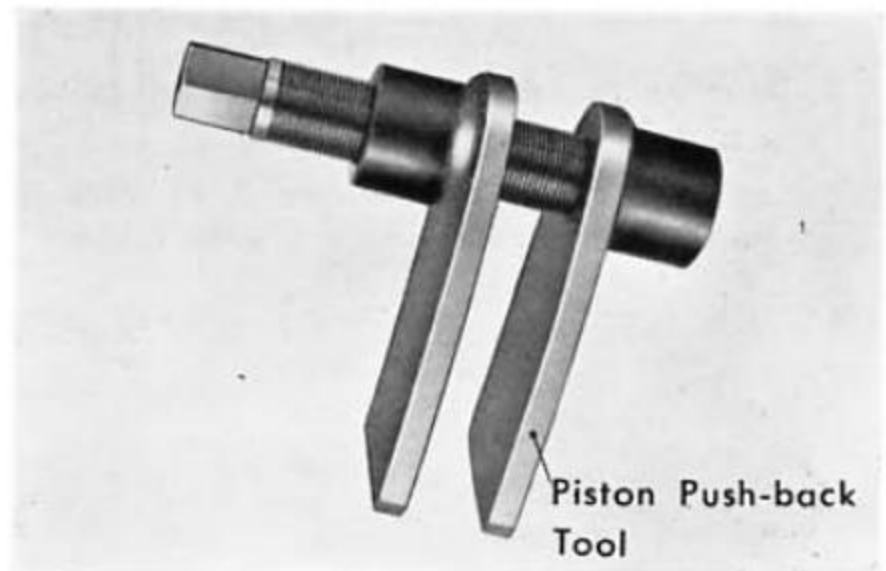

Fig. 12C-2
3. Install the piston push-back tool (Fig. 12C-3) over the disc, and push the pistons back into the cylinder by turning the hexagonal head of the tool using a wrench (Fig. 12C-3).